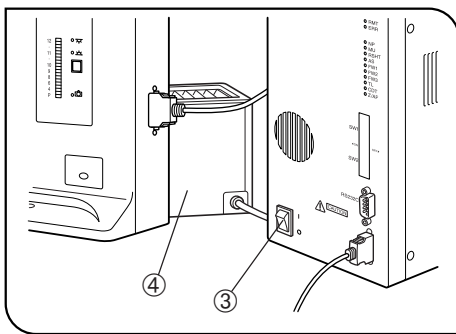

Fig. 2
8. To avoid potential shock hazards and burns when replacing the light bulb, set the main switch ③ to “○” (OFF) then disconnect the power cord from the wall outlet in advance. Whenever you replace the bulb during use or right after use, allow the lamp housing ④ and bulb to cool before touching. (Fig. 2)